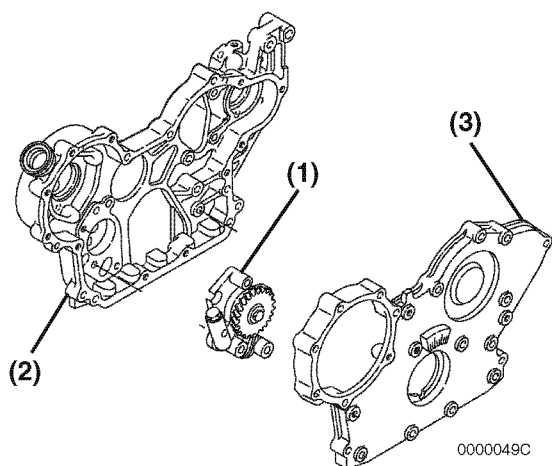

Figure 9-11
3. Install the oil pump assembly **(Figure 9-11, (1))** into the gear case housing **(Figure 9-11, (2))**. Tighten the bolts to specified torque.
4. Thoroughly clean all old sealant from the gear case cover **(Figure 9-11, (3))** and gear case housing **(Figure 9-11, (2))**. Apply ThreeBond Liquid Gasket, Yanmar Part No. 977770-01212, or equivalent sealant to the gear case cover. Install the gear case cover housing. Tighten the cover bolts to the specified torque.